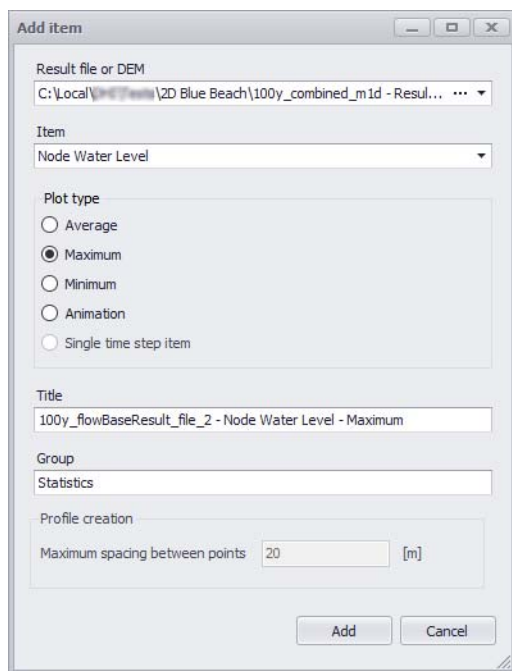

Figure 20.33 The 'Add item' dialog where the result file and items to add to the profile plot are defined
- Specify the result file, item, and data type to add to the profile plot on the 'Add item' dialog that appears (Figure 20.33).